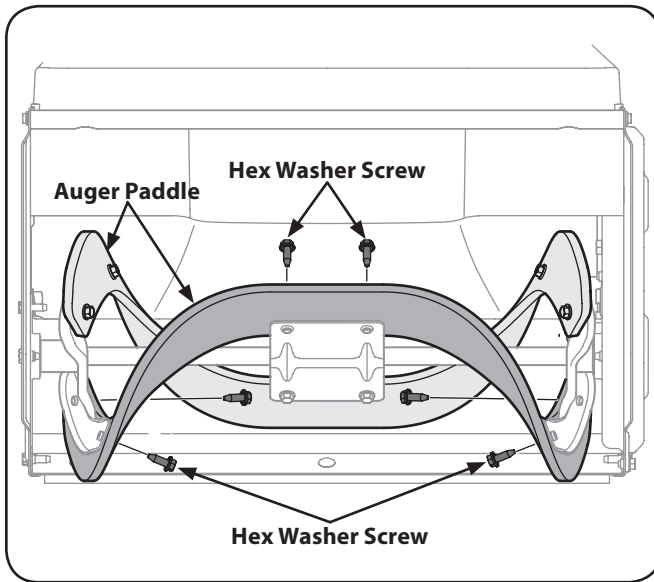

Figure 7-4
To change the rubber paddles, proceed as follows and refer to Figure 7-4:
3. Remove the existing rubber paddles by unthreading the hex washer screws which secure them to the auger. See Figure 7-4.